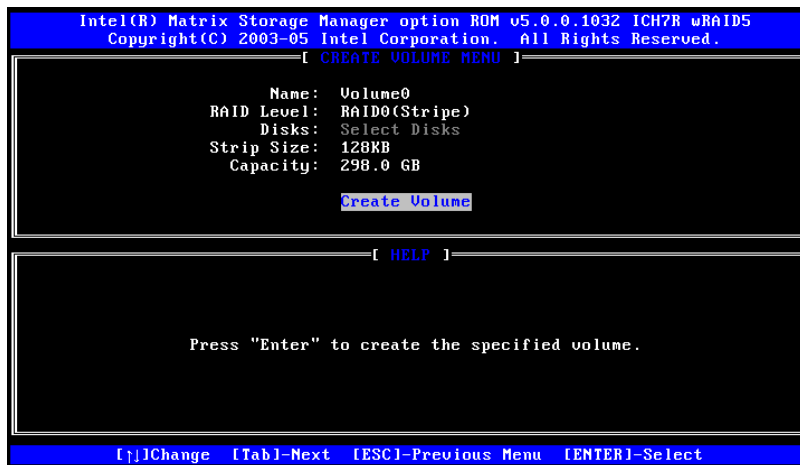

Figure F-6: Create the RAID Volume
Step 6: Create the RAID Volume. Press **ENTER** to create the RAID volume as specified. See **Figure F-6**.